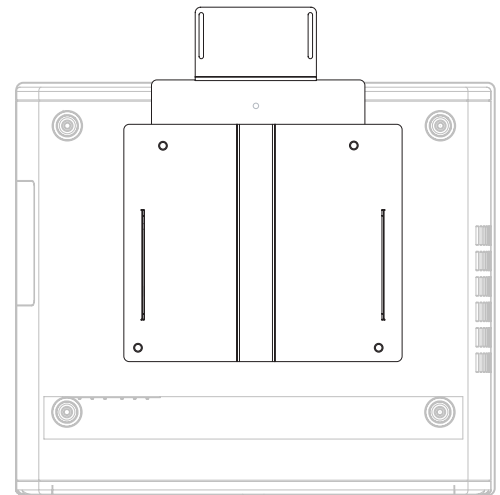

Figure 3-7. Vision 70/CineWide with Anamorphic Lens Base Plate and Ceiling Mounting Plate - Bottom View
4. Secure the CineWide base plate (and ceiling mounting plate, if needed) to the projector with the four, M6x16mm screws and washers provided with the CineWide lens base plate. See Figure 3-7.